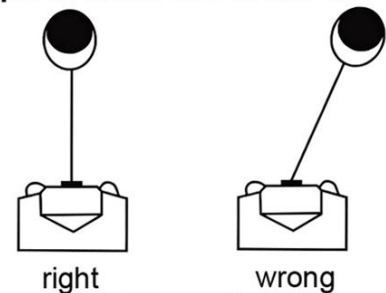

Figure 2
e. Avoid continuous pulls from extreme angles as this might cause the wire rope to gather on one end of the drum and damage the wire rope. SEE FIGURE 2